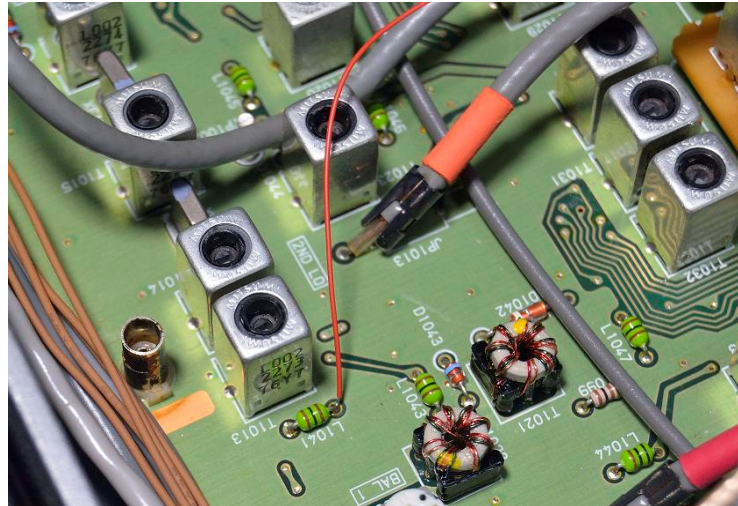

Fig 2 – Pick up point for Vcc, on L1041.
9. The Vcc supply for the PAT is picked up from the cold end of L1041, as shown in Fig 2 below. This will be found on the right hand side of the rig, just behind the matching transformers for the filters. J1007 can be seen in the photo.